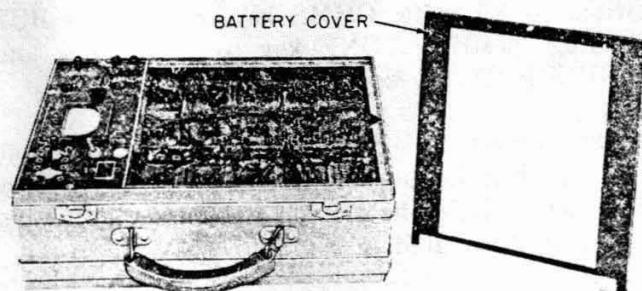

Fig. 18—Battery Replacement
**9.04** See Fig. 18 for battery replacement.